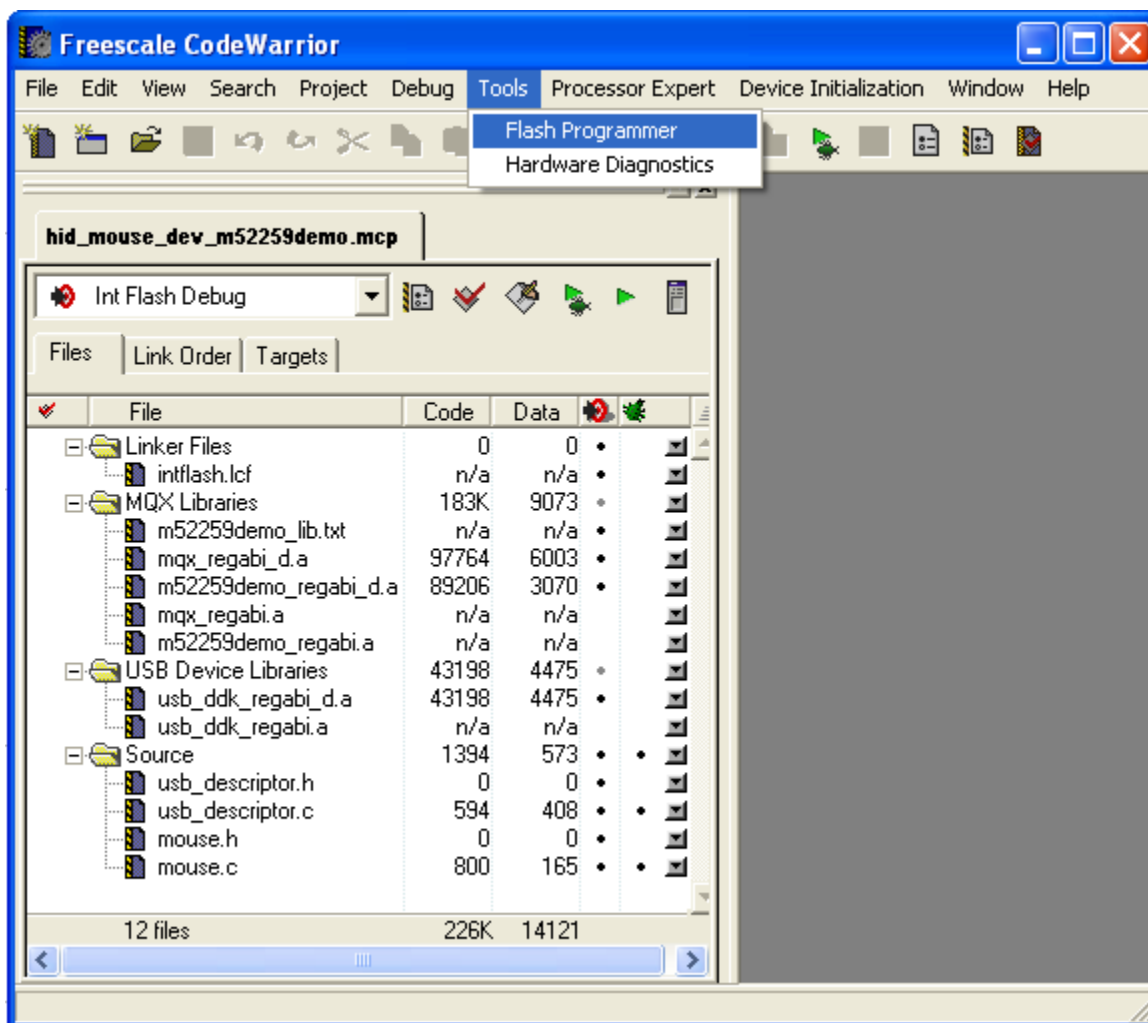

Figure A-4. Open Flash Programmer
1. To load the built image to the board, choose Flash Programmer as in Figure A-4